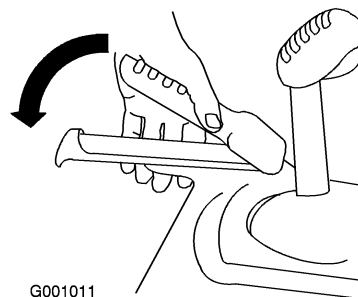

Figure 27
1. To engage the traction drive, squeeze the left hand (traction) lever to the handgrip (Figure 27).